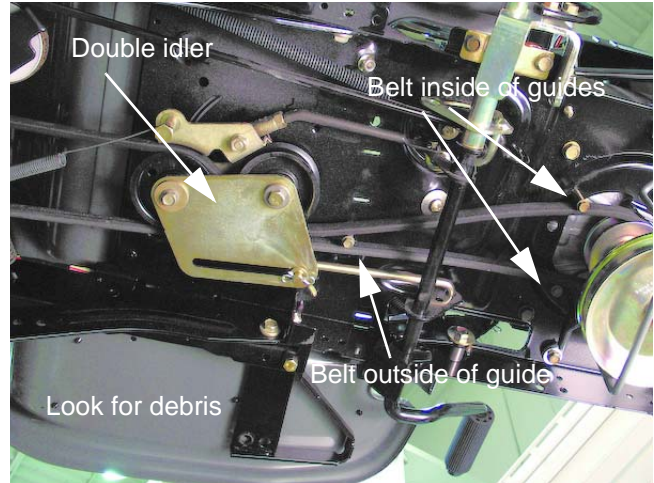

Figure 5.5
- 4b. Check the belt routing. See Figure 5.5.